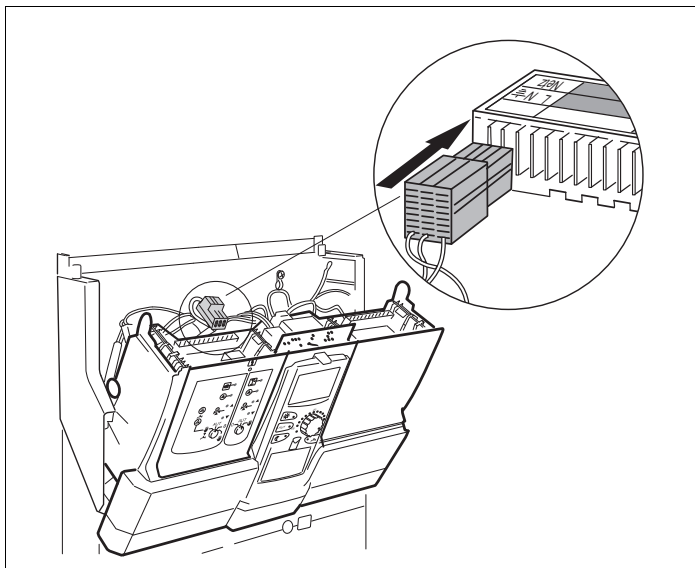

Fig 7 Connect power supply to slot 1
- Plug 230 V module connector into the correct position in the terminal strip (→ Fig. 7).
- Remove 230 V module connecting plug (→ Fig. 7, page 15) and all the connecting cables of the module ZM424 and fix in standby position.